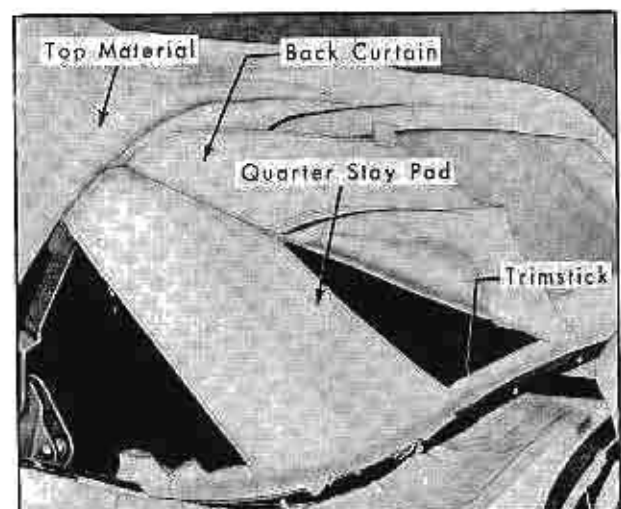

Fig. 3-102 Trim Stick Location
4. Remove the trim stick screws, detach top material from short sticks and lift the assembly up from the body opening, Fig. 3-102.